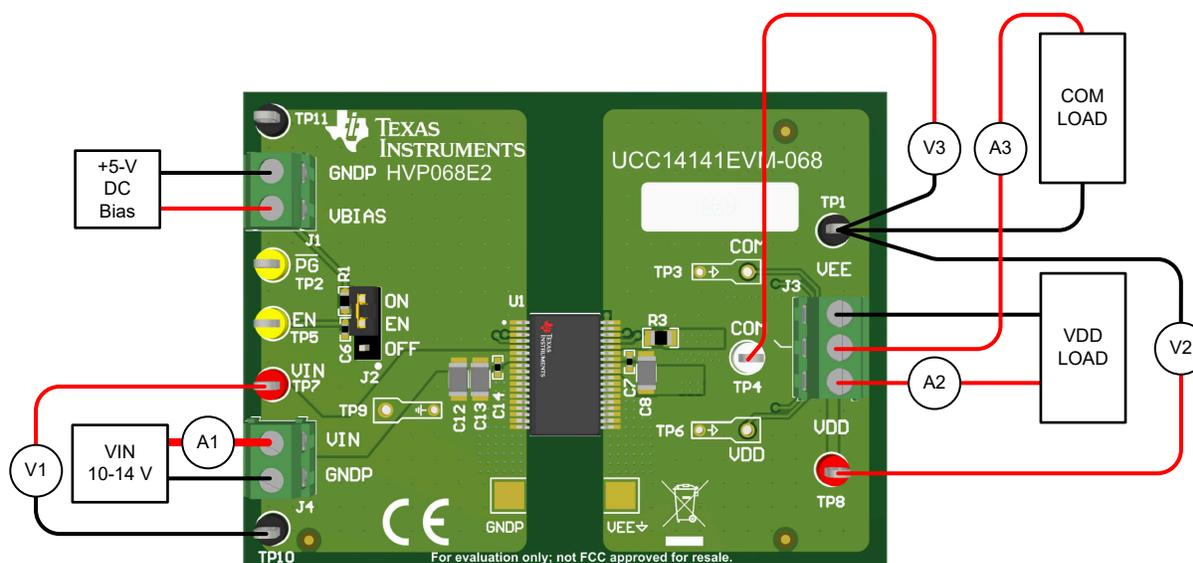

Figure 4-1. Typical Efficiency Measurement Setup
The UCC14141EVM-068 EVM uses screw terminals for quickly connecting to the  $V_{IN}$ ,  $V_{DD}$ , and  $V_{EE}$  pins. Connecting the appropriate ammeters and voltmeters, as shown in Figure 4-1, allows accurate EVM efficiency measurements to be made.
4. Connect a variable load between J3:1 ( $V_{DD}$ ) and J3:3 ( $V_{EE}$ ). If using an electronic load, set to constant current (CC), 68 mA. Leave the load disabled until the EVM is powered.
5. Connect a second load between J3:2 (COM) and J3:3 ( $V_{EE}$ ). If using an electronic load, set to constant current (CC), 10 mA. Leave the load disabled until the EVM is powered. Since the required load is small, a through-hole, 250-mW, 400- $\Omega$  load resistor can be connected between J3:2-3.
6. Some electronic loads are not be able to regulate/stabilize CC when setting in the low mA range. Monitor the input current and load currents by inserting ammeters, A1-A3, as shown in Figure 4-1. Use a current probe with the oscilloscope to verify the stability of the DC current being regulated by an electronic load.
Table 4-1 describes the various EVM test points, allowing easy access for connecting oscilloscope probes, DVM test leads and wire connections to lab test equipment as shown in Figure 4-1. Pay attention to maintain separation between the primary side, GNDP and secondary side, VEE. Primary-side test points are not to be referenced to VEE through improper test equipment insertion. Likewise, secondary-side test points are not to be referenced to GNDP through improper test equipment insertion.